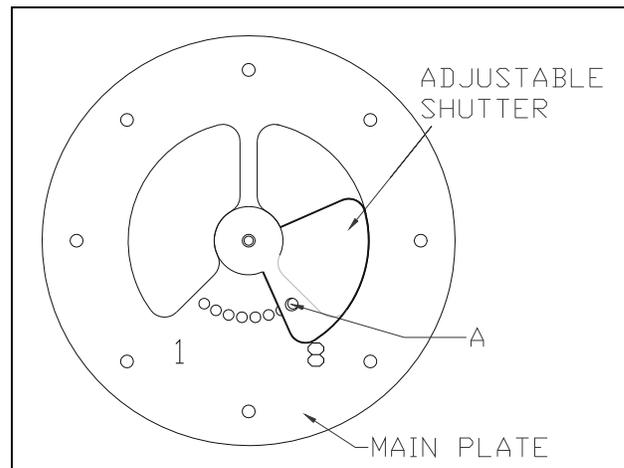

Figure 11: Restriction Plate Adjustments
The restriction plate is used to control the draft of the heater. Controlling the draft also changes the aesthetics of the flame. The restriction plate has eight settings, one (1) being the lowest and eight (8) being the highest. For a fast moving flame with lots of action, use a low setting. For a slow, lazy flame, a high setting should be used. See *Figure 11* for instructions on how to adjust the restriction plate settings.
Remove the log set before adjusting the restriction plate by following the log set removal instructions on page 25. Make sure the unit is cool before touching any part of the firebox and log set. Remove the exhaust baffle by removing the one screw in the center of the baffle (*refer to Figure 8*). The baffle will come out once the screw is removed. *Be careful not to drop the baffle on the pan burner.* Once the baffle is set aside, check the restriction plate screw location. There are eight locations that the restriction plate can be positioned. (Refer to Venting Configuration – *Figures 14 – 16* for recommended restriction plate positions) (Refer to *Figure 11* for proper adjustment plate index location) 'A' in *Figure 11* shows the locating screw that determines the position of the plate.